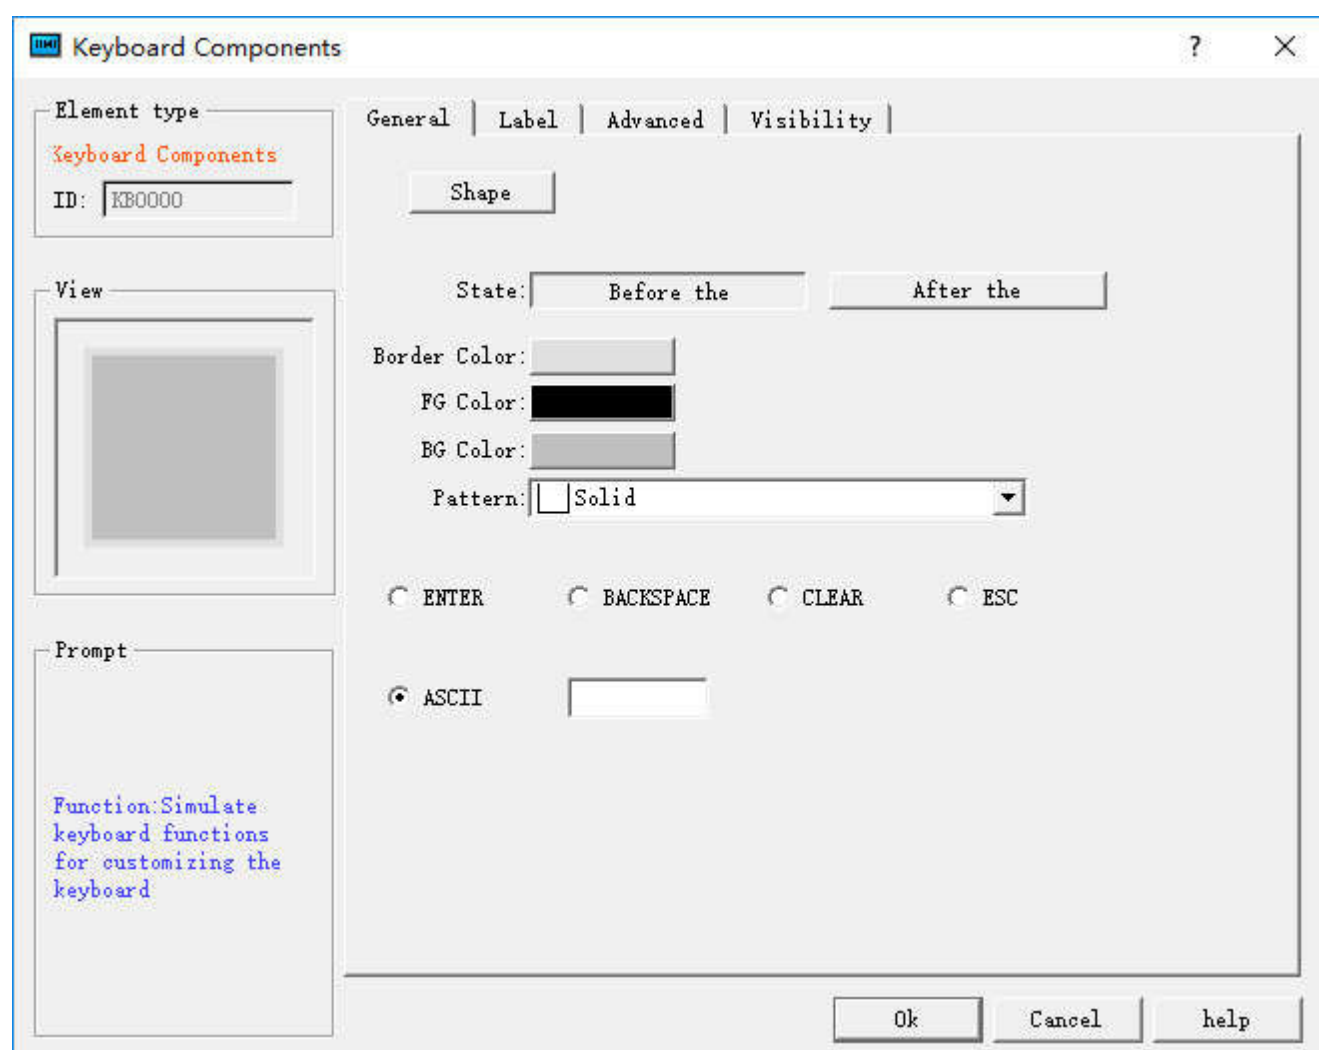

Figure 4-119 Keyboard General Page dialog box
**1. Keyboard:** This control is employed to customize the keyboard, composed of each button on the keyboard. The icon of the control on the toolbar is: ; Click on the button, then a dialog box shown in Figure 4-119 will pop up.